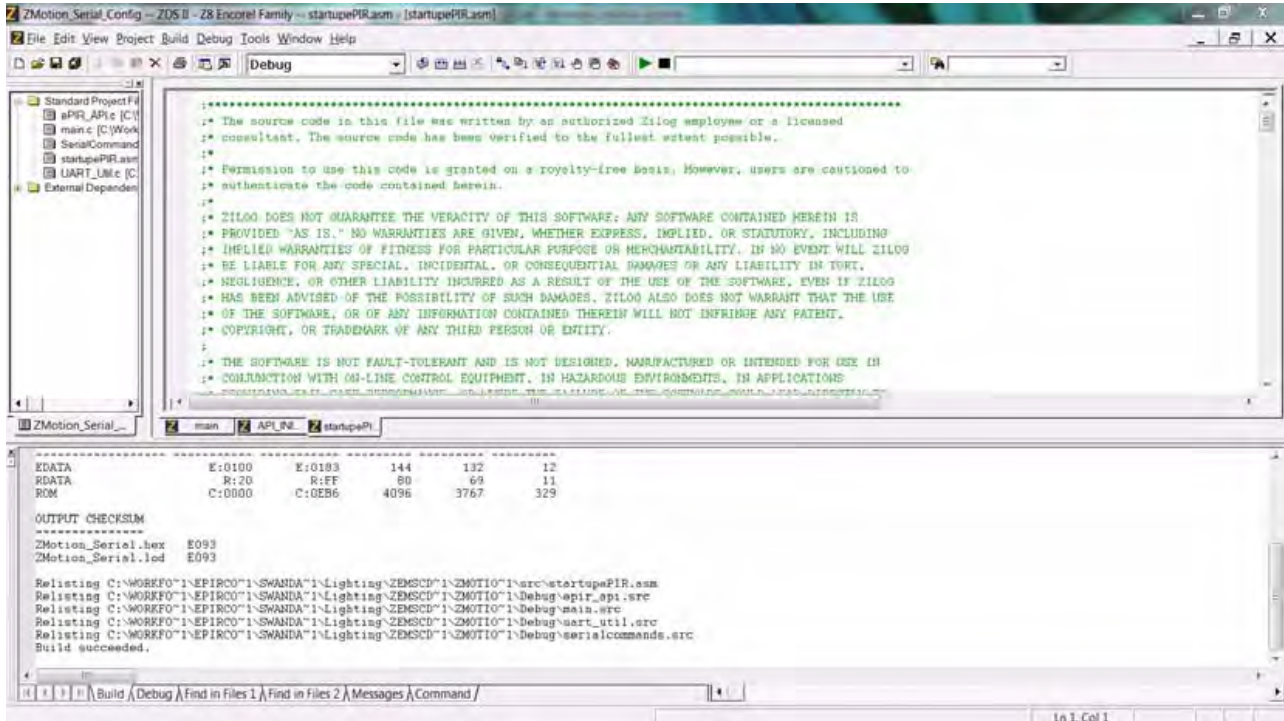
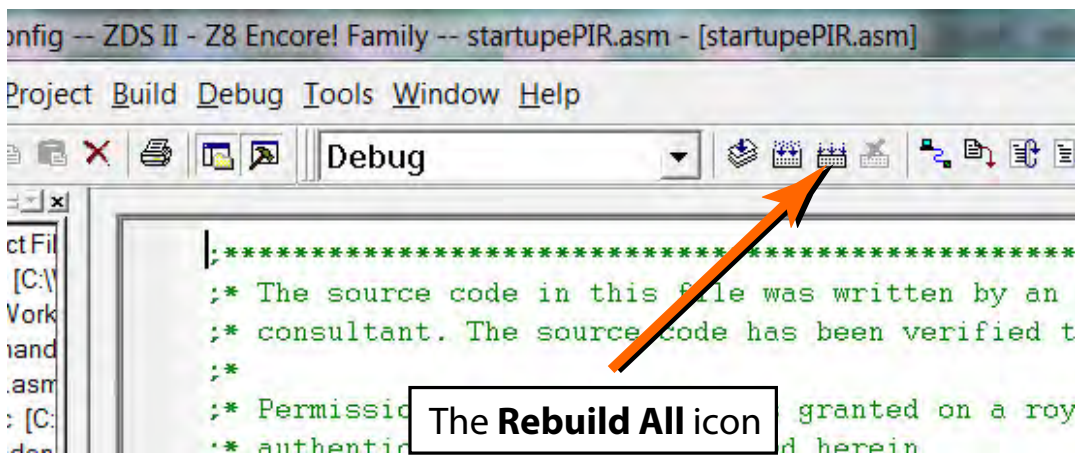

Figure 12. Building the ZMOTION_Serial_Config project in ZDSII
Figure 13. The Location of the Rebuild All Icon
3. Click the **Rebuild All** icon to build the project. The build output should not indicate any errors. If you receive errors, try reloading the projects from the original Application CD and ensure that the folders are not set to **Read Only**. See Figure 12 for an example; Figure 13 indicates the location of the **Rebuild All** icon in the ZDS II menu bar.